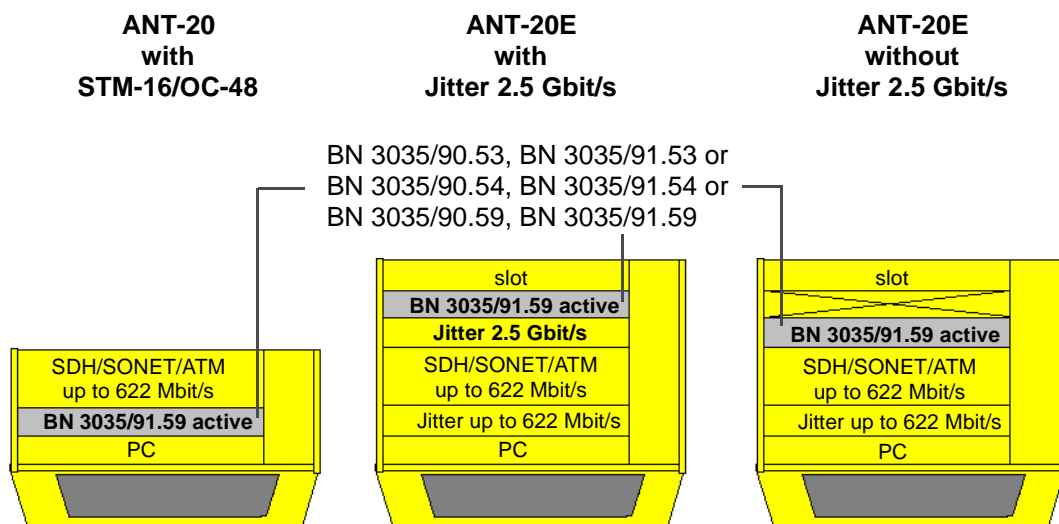

Fig. M-5 Slots for the STM-16/OC-48 modules
The STM-16/OC-48 modules with their specific wavelengths can be operated only in a certain ANT-20E slot position (see Fig. M-5). The slot position depends on whether the “2488 Mbit/s Jitter Analyzer/Generator” module (BN 3035/90.68) is simultaneously fitted or not.
1. Insert the module in the scheduled slot position (see Fig. M-5).